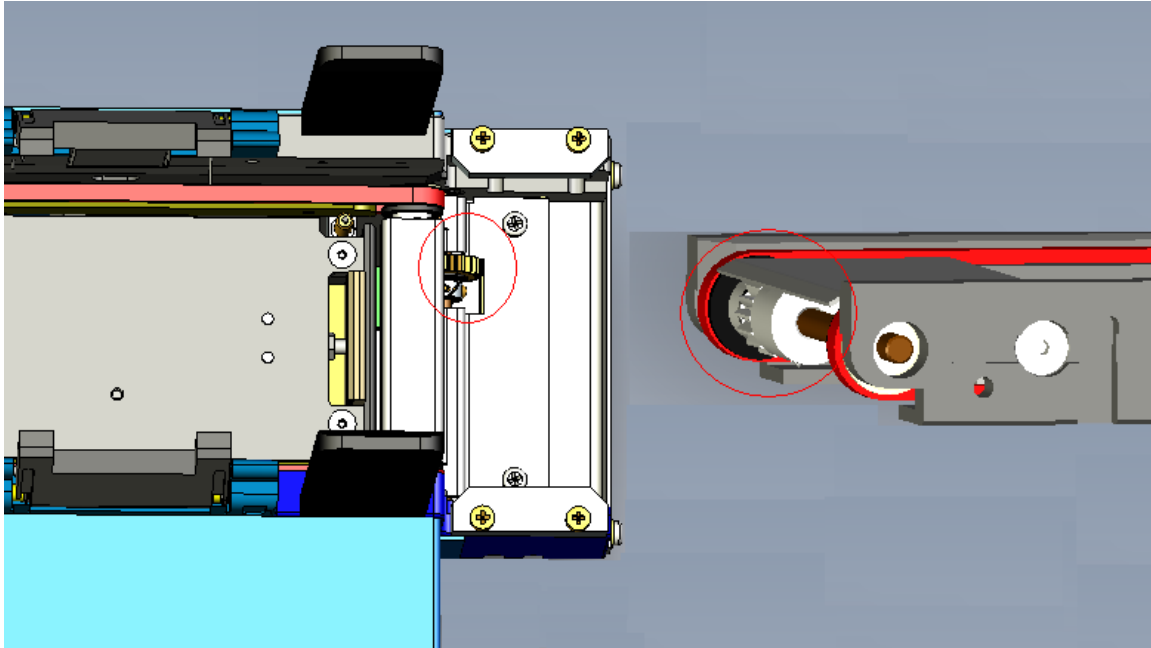

Figure 7
- Position the TrackLink into either side of the StackLink and insert the track so the grooves match and fit into place (Figure 7).
Remove power cord and communication cable from StackLink carton. On the rear side of the base unit housing connect one end of the 9-pin to 9-pin serial cable (see Figure 7), and attach the other end into COM1 port on Host Computer.
Plug power cable into the StackLink's AC inlet located on rear side of the base unit housing (see Figure 7).